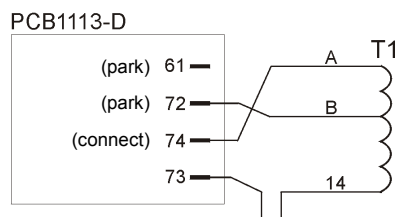

Figure 8. LP 5/6/8/10-11U:
2. Input voltage is 240Vac. In this case the bypass tap on the output transformer must be changed. Please refer to fig. 8 and 8a. Proceed as follows: